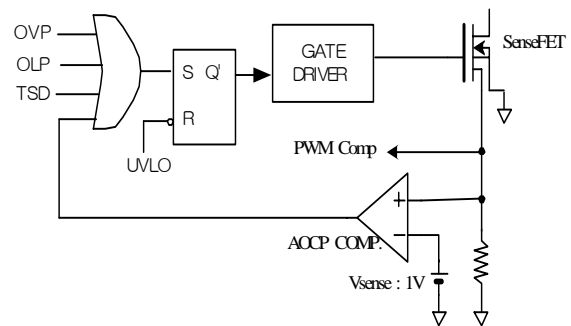

Figure 4. AOCP block
**3.1 Abnormal Over Current Protection (AOCP) :** When the secondary rectifying diodes or the transformer pins are shorted, a steep current with extremely high  $di/dt$  can flow during the LEB time. Therefore, the abnormal over current protection (AOCP) block is added to ensure the reliability as shown in figure 4. It turns off the SenseFET within 300ns after the abnormal over current condition is sensed.